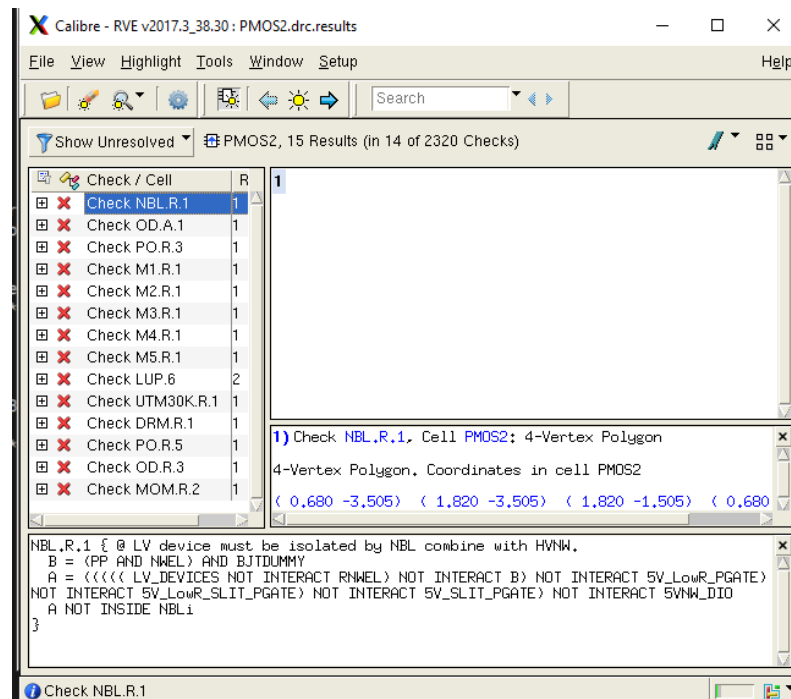
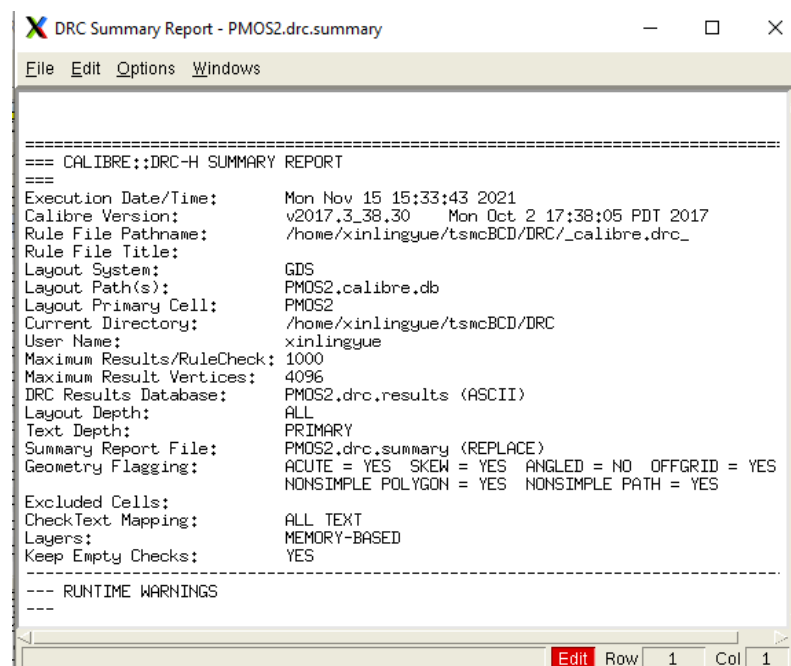

Figure 21: DRC Summary Report 1
Figure 22: DRC Summary Report 2
- Click **Run DRC** icon on the left of *Calibre Interactive – nmDRC* window. Finally you will have *Calibre – DRC RVE* and *DRC Summary Report* windows with design rule violations as indicated in Fig. 21 and Fig. 22 respectively.
- Correct your layout according to the errors and warnings in *Calibre – DRC RVE* window Fig. 21. Click at the errors to get some information about it at the bottom of *Calibre – DRC RVE* window. At the same time, the location of error will be highlighted in the layout. It should be easy for you to realize what should be modified.